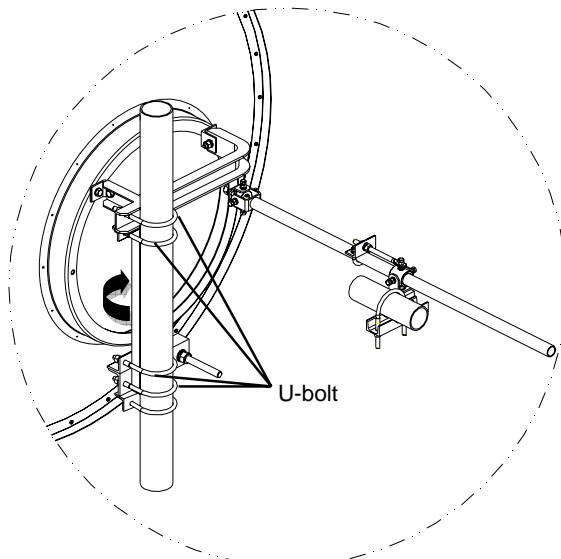

Fig 12.2
- ① Loosen nut of U-bolt (shown in Fig 12.2), and then rotate M16 Nut clockwise or counterclockwise to make azimuth adjustment (shown in Fig 12.3).
- ② The antenna fine azimuth adjustment range is from -5° to $+5^{\circ}$.
- ③ Tighten all the fasteners.